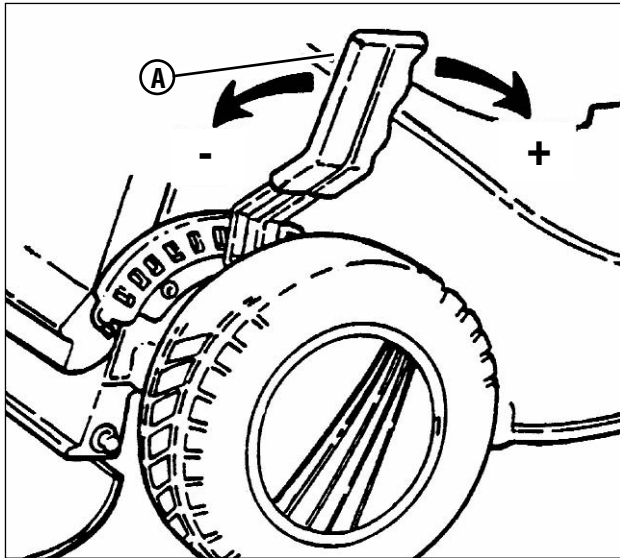

Figure 6: Adjusting cutting height
1. Pull the cutting height adjusting handle (A, Figure 6) outward and move to the desired cutting height.